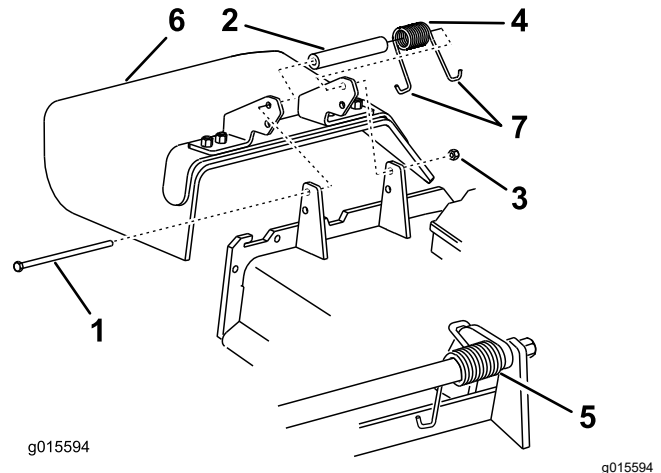

Figure 101
1. Remove the locknut, bolt, spring, and spacer holding the deflector to the pivot brackets (Figure 101).
2. Remove the damaged or worn grass deflector (Figure 101).
**Note:** Make sure that 1 J-hook end of the spring is installed behind the deck edge before installing the bolt as shown in Figure 101.
6. Place 1 J-hook end of the spring around the grass deflector (Figure 101).